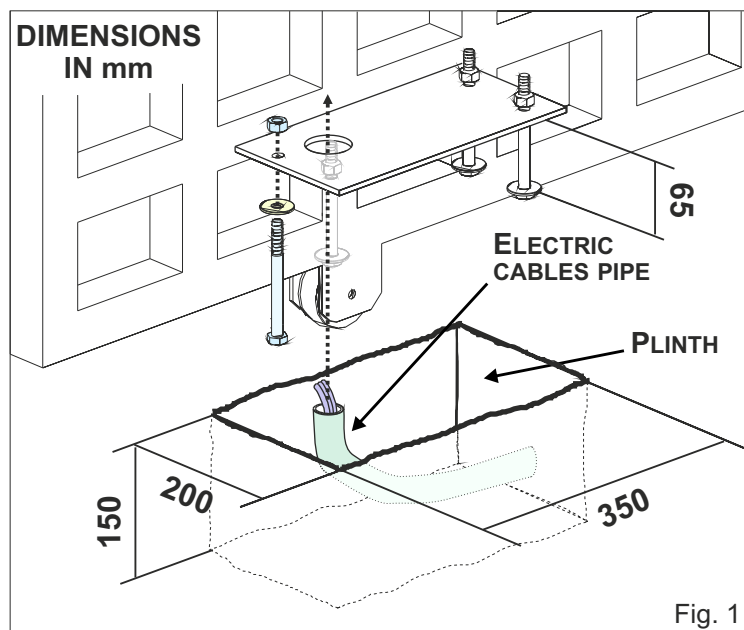

Fig. 1
**2.1.** Prepare a concrete basement according to the dimensions shown in Fig. 1; The foundation plate will be concreted inside the basement through the anchor bolts